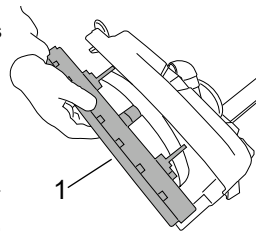

Fig.40
- Separate the squeegee from the machine (fig. 40, ref. 1).